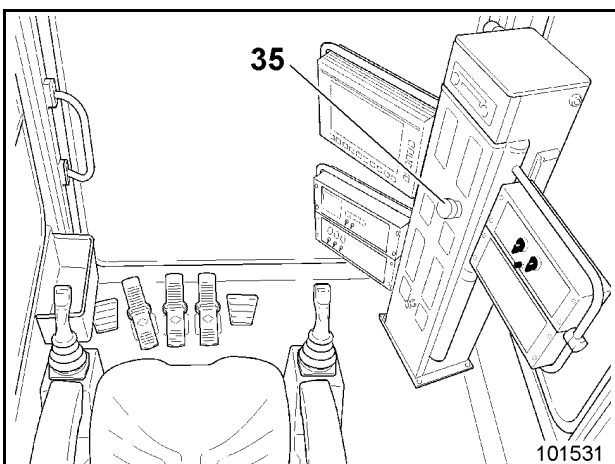

Fig. 2-30:
- by pressing the switch (red) on the front panel of the control column (35, Fig. 2-30:),